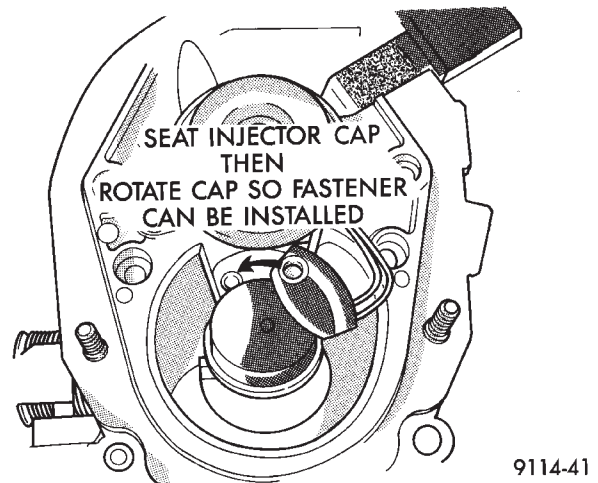
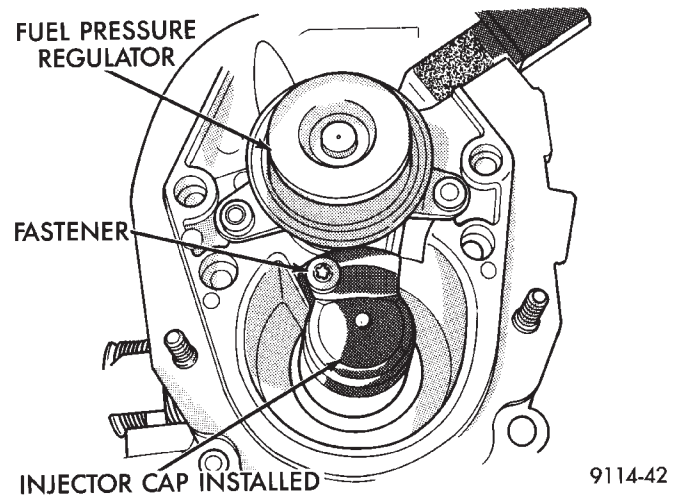

Fig. 11 Installing Fuel Injector Cap
Fig. 12 Fuel Injector Installed
(3) Install injector cap with locating notch aligned with the locating lobe on the injector (Fig. 11).
(4) Push down on the cap to ensure a good seal.
(5) Rotate the cap and injector to line up the attachment hole (Fig. 12).
(6) Install injector cap holddown screw (torx-head screw). Tighten screw to 4-5 N•m (35-45 in. lbs.) torque.
(7) Connect negative cable to battery.